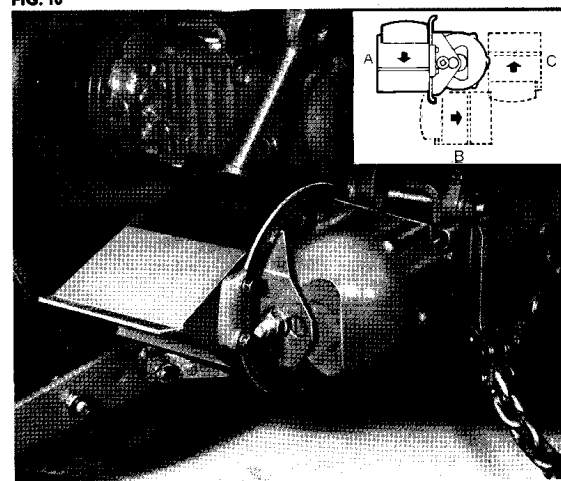

FIG. 11
6. Mount the pulley drive unit in the required position (Fig. 11 Inset), and secure it with the four spring washers and nuts. The two horizontal positions provide alternative directions of rotation. The pulley must never be fitted in the position opposite to 'b' Fig. 11 as, in this position, the drive unit bearings would not receive adequate lubrication.